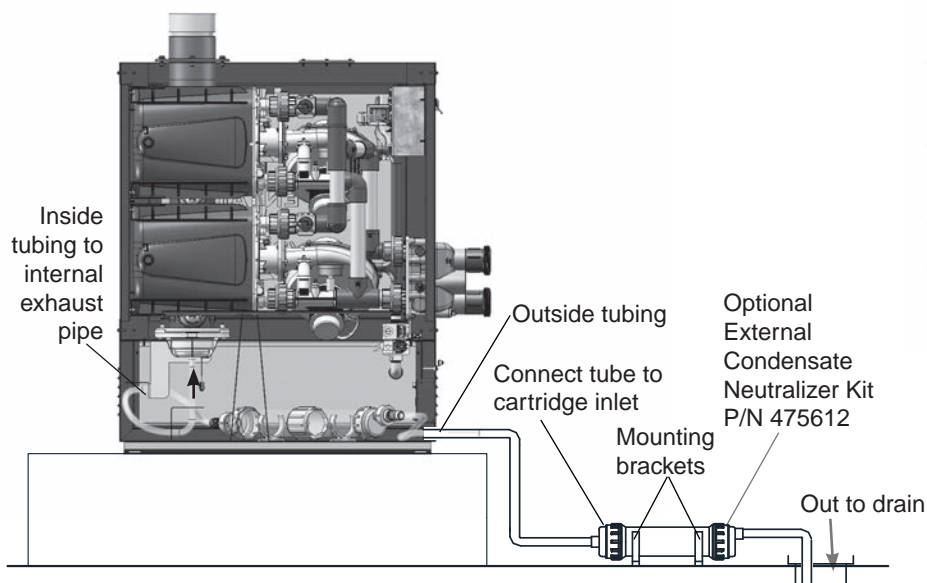
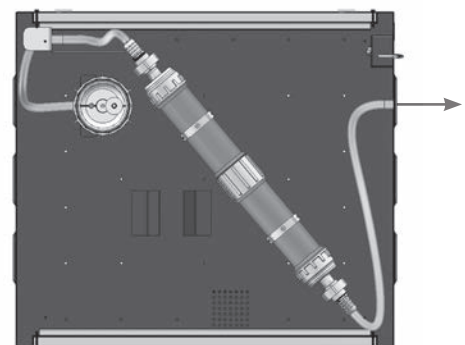

Figure 24a. External Neutralizer Cartridge for indoor heater Installation
Figure 24b. Internal Neutralizer Cartridge installed on base of heater for outdoor heater Installation
3. **Indoor Heater Installation (Fig. 24a):** Mount the neutralizer cartridge on the floor near the side of the heater. **Outdoor Heater Installation (Fig. 24b):** Using the provided brackets, secure the neutralizer cartridge onto the heater base.